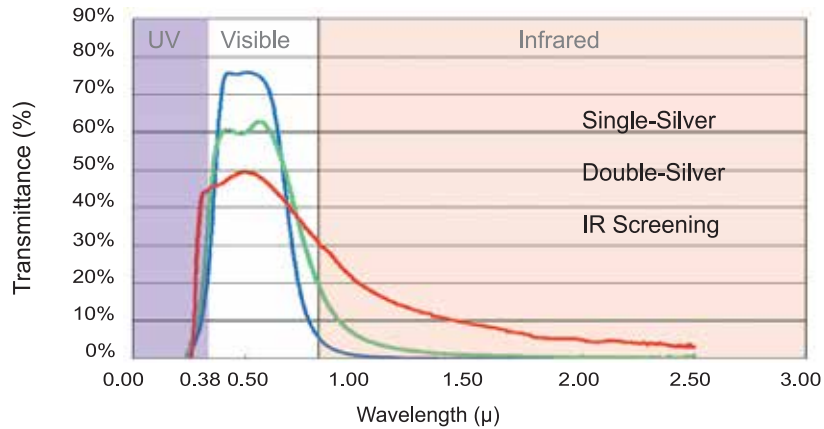

Figure 2
Shading coefficient (SC) is determined by integration over the whole solar spectra from 300nm to 2500nm, oftenly used to evaluate glass performance against solar heat in design practice and building codes. As a matter of fact, visible light acts differently from solar infrared radiation in energy efficiency of buildings. The figure 2 shows a comparison of different glass products with the same SC. Obviously, infrared screening glass has the lowest solar IR transmittance & in return the best performance against solar IR and in reduction of cooling load. In view of all IR screening glass products having a direct solar IR transmittance below 2%, the selection process shall follow visible light transmittance & aesthetic appearance requirements rather than shading coefficient SC to optimize energy efficiency of buildings.